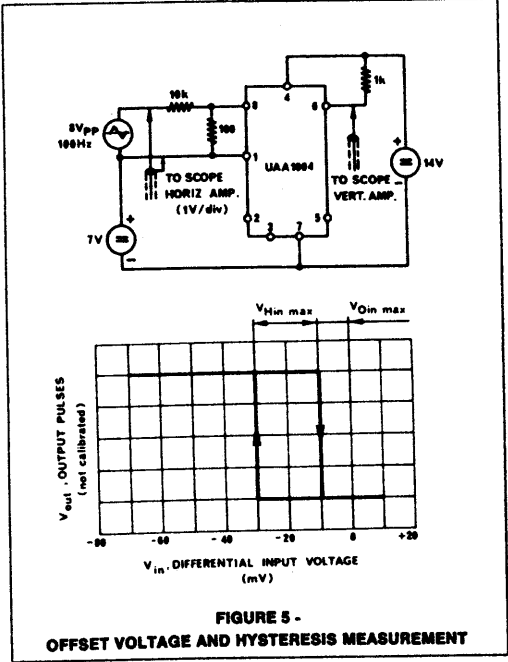

FIGURE 5 - OFFSET VOLTAGE AND HYSTERESIS MEASUREMENT
- This characteristic can be measured as in Fig. 5. The function generator must be connected between pins 1 & 2 and the input amplifier must be biased with pin 8 positive and pin 1 negative.